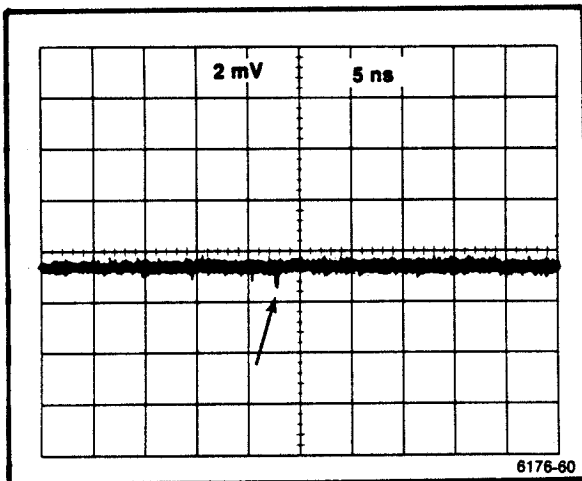

Figure 5-5. Typical display of trigger kickout.
- c. **CHECK**—the trigger kickout pulse to be no more than  $\pm 2$  mV (see Figure 5-5).